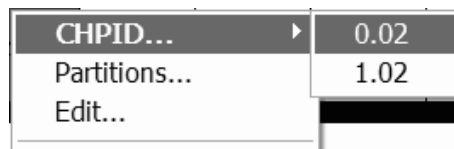

Figure 12. Context menu of a spanned CHPID in a vertical processor view
1. In the vertical processor view, you can see only one (physical) instance of a spanned CHPID. Nevertheless, in such a case, you can get information about all logical instances from such a CHPID's context menu (see Figure 12).